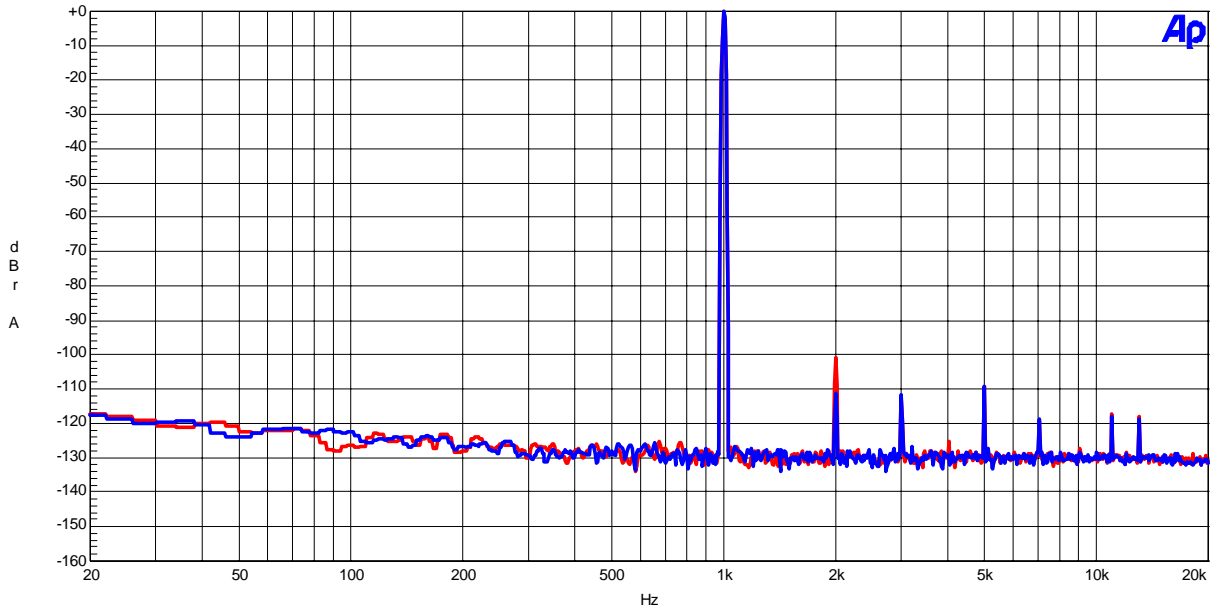

Figure 23 FFT (1kHz, 0dBFS input)
- Figure 23 FFT (1kHz, 0dBFS input)